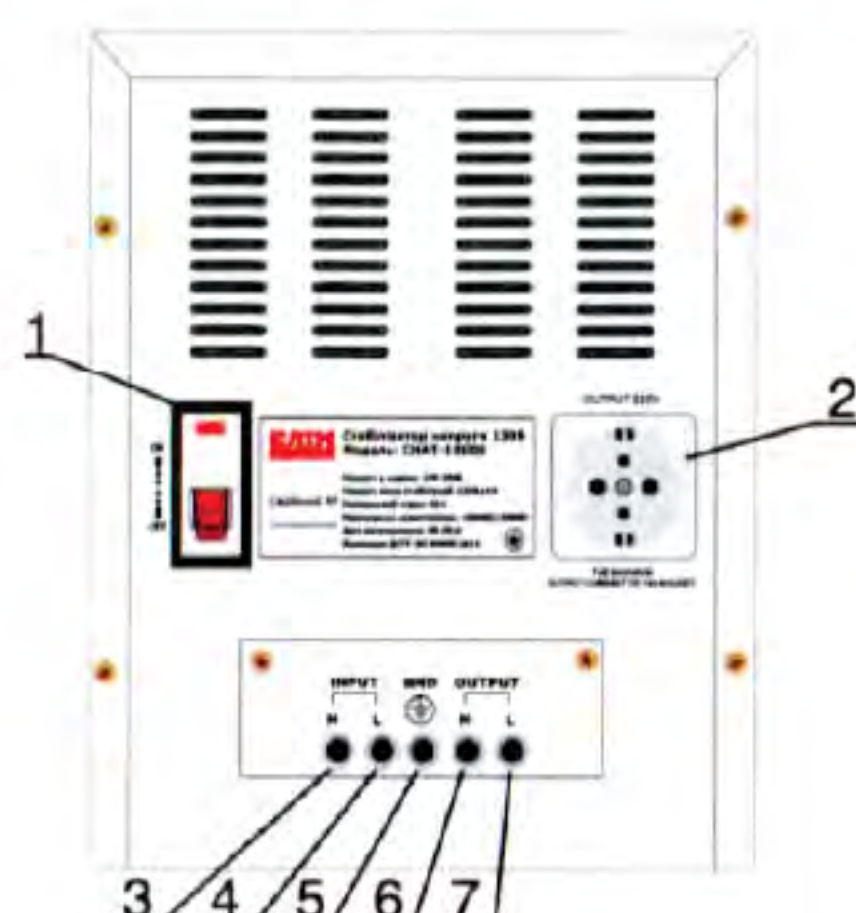

Figure 3:
4.3 The rear panel of the CHAT-5000VA ~ 10kVA contactless AC voltage stabilizer is shown in Figure3;